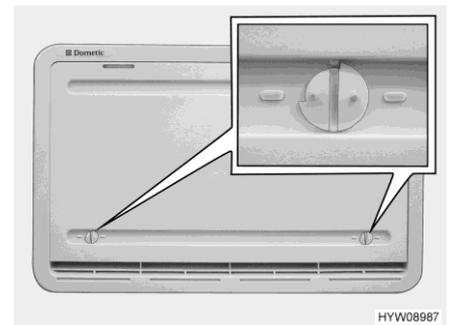

Fig. 185 Winter cover (refrigerator ventilation grill)
The winter covers (Fig. 185) protect the cooling unit against cold air. Place winter covers in front of both refrigerator ventilation grills when the external temperature falls below +10 °C (both for gas and electrical operation).
- Open both locks (Fig. 185) (groove in horizontal position).